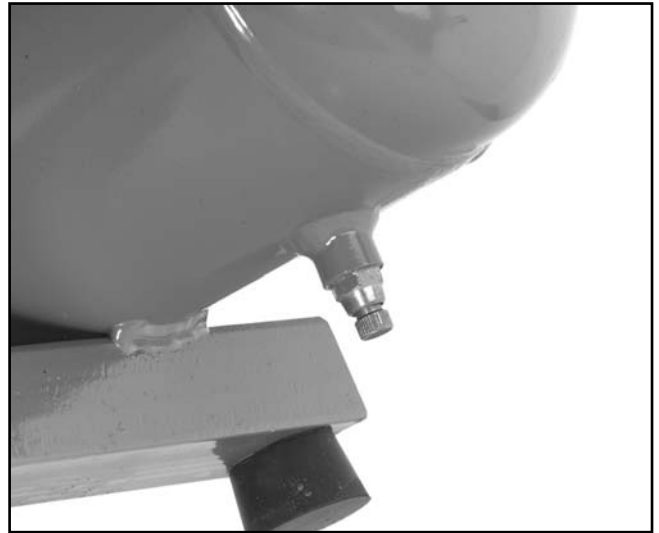

Fig 8. Typical location of drain cocks.
2. Drain tanks of any condensation by opening the drain cocks on the bottom of both tanks. **See Figure 8.** Depending upon the amount of use and the weather conditions, a certain amount of condensed water may be released. For longevity of the compressor seals and the air tools you connect, it is best to keep the tanks free of water. The tanks are best drained if the drain cocks are opened when the system is pressurized. Once water has stopped coming out, you can close the drain cocks.